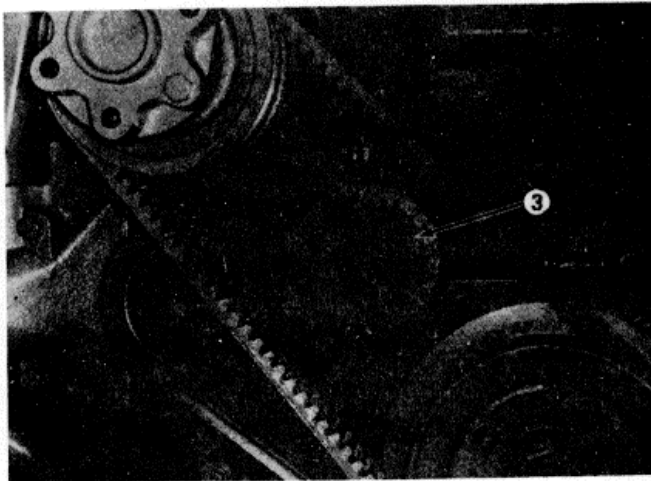

Fig. 2-29, (N11974) Water pump -with idler
1. Loosen capscrews and lockwashers or locknut securing idler pulley to bracket or water pump (3, Fig. 2-29).